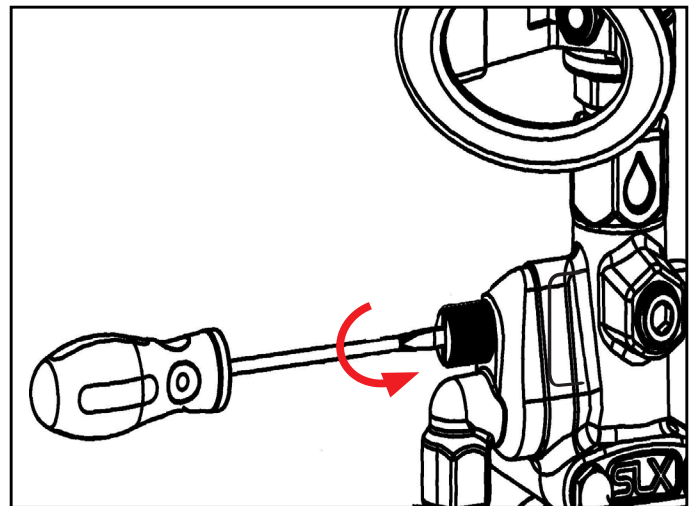

Fig. 10.2: Loosening thumb screw on elbow
3. Loosen the thumb screw on the elbow by hand or using a flathead screwdriver. [Fig 10.2]